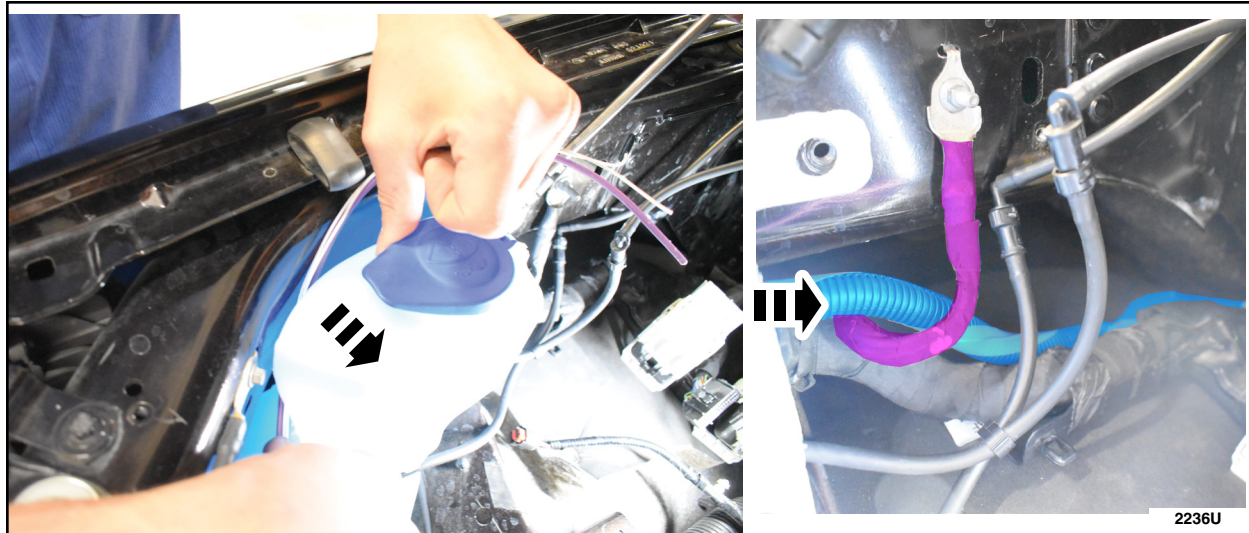

FIGURE 27
32. Route wire harness behind the washer reservoir. This is easiest to do if the reservoir is slightly pushed forward. Once the wires are routed behind the reservoir, the remaining harness can be pulled through. See Figure 27.